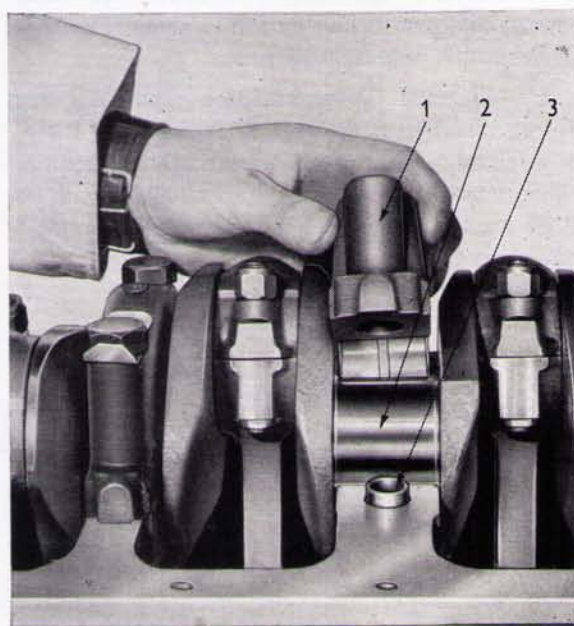

Fig. L.4.
8. Replace the cap, using new locking tab-washers and tighten the set-screws lightly before proceeding to the next bearing. See Fig. L.4.